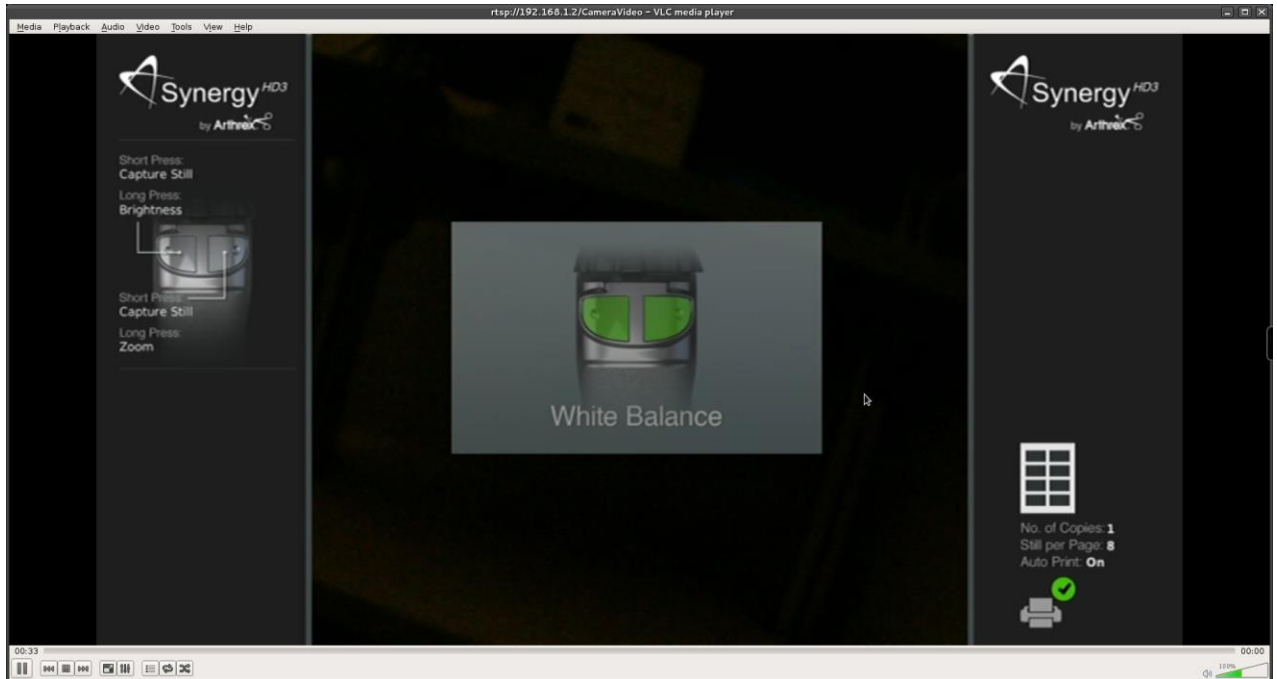

Figure 23- Synergy^{HD3} Initial Screen
2. The camera will take approximately 30-40 seconds to fully load its boot software. When the software has fully loaded you will see the Synergy^{HD3} Initial Screen shown below in Figure 23
15. Once the White Balance Operation has been successfully completed, the Camera Head buttons will function as defined on the Synergy^{HD3} Initial Screen Figure 23.